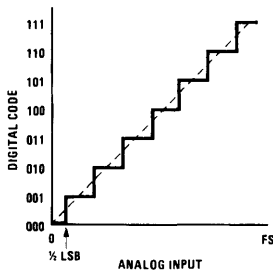
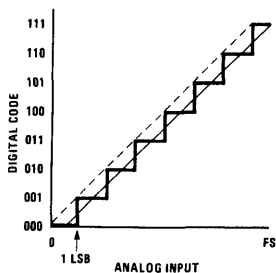

FIGURE 2. ADC Transfer Curve,  $\frac{1}{2}$  LSB Offset at Zero
FIGURE 3. ADC Transfer Curve, No Offset
**Quantizing Error** is the maximum deviation from a straight line transfer function of a perfect ADC. As, by its very nature, an ADC quantizes the analog input into a finite number of output codes, only an infinite resolution ADC would exhibit zero quantizing error. A perfect ADC, suitably offset  $\frac{1}{2}$  LSB at zero scale as shown in *Figure 2*, exhibits only  $\pm \frac{1}{2}$  LSB maximum output error. If not offset, the error will be  $\frac{-1}{+0}$  LSB as shown in *Figure 3*. For example, a perfect 12-bit ADC will show a  $\pm \frac{1}{2}$  LSB error of  $\pm 0.0122\%$  while the quantizing error of an 8-bit ADC is  $\pm \frac{1}{2}$  part in  $2^8$  or  $\pm 0.195\%$  of full scale. Quantizing error is not strictly applicable to a DAC; the equivalent effect is more properly a resolution error.
linearity implies error in addition to the inherent  $\pm 1/2$  LSB quantizing or resolution error. In reference to *Figure 2*, showing no errors other than quantizing error, a linearity error allows for one or more of the steps being greater or less than the ideal shown.